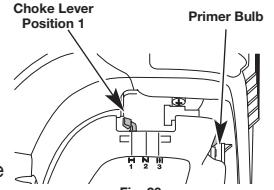
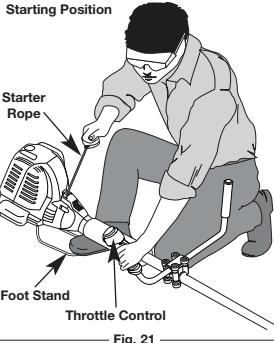

Fig. 20
Fig. 21
3. Fully press and release the primer bulb 10 times, slowly. Some amount of fuel should be visible in the primer bulb and fuel lines (Fig. 20). If you can't see fuel in the bulb, press and release the bulb as many times as it takes before you can see fuel in it.
4. Place the choke lever in **Position 1** (Fig. 20).
5. Crouch in the starting position (Fig. 21). Press the throttle lockout in and squeeze the throttle control lever. Pull the starter rope 5 times.
6. Place the choke lever in **Position 2** (Fig. 20).
9. Continue squeezing the throttle control, move the choke lever to **Position 3** (Fig. 21) and continue warming the engine for an additional 60 seconds. The unit may be used during this time.
IF...the engine hesitates, return the choke lever to **Position 2** (Fig. 20) and continue warm-up.
3. Fully press and release the primer bulb 10 times, slowly. Some amount of fuel should be visible in the primer bulb (Fig. 20). If fuel cannot be seen in the bulb, press and release the bulb until fuel is visible.
4. Move the choke lever to **Position 1** (Fig. 20).
5. Crouch in the starting position (Fig. 21). Place the electric starter or drill into the back of the unit. Refer to the Operation section of the Electric Starter or Power Start Bit operator's manual.
6. Press the throttle lockout in and squeeze the throttle control lever. Press and hold the electric starter or drill **ON (I)** button for 2 seconds.
7. Move the choke lever to **Position 2** (Fig. 20).
8. Press the throttle lockout in and squeeze the throttle control lever, press and hold the electric starter or drill **ON (I)** button for 2-second intervals until the unit starts.
10. Continue squeezing the throttle control, move the choke lever to **Position 3** (Fig. 20) and run the unit for an additional 60 seconds. The unit may be used during this time.